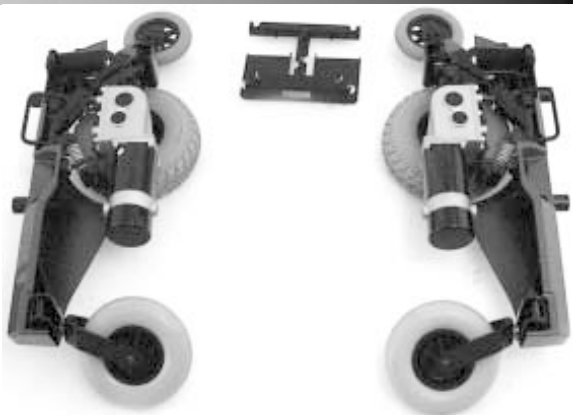

Figure 23. Frame Assemblies
1. Place the three frame assemblies next to each other as shown in figure 23.